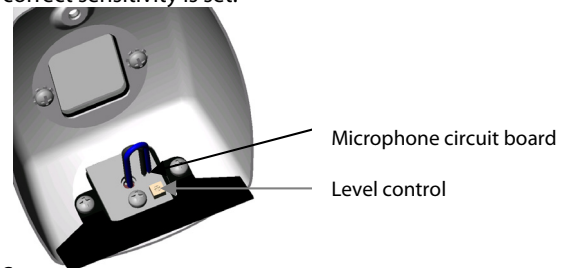

Figure 6
- 1 Adjust the sensitivity of the microphone for better performance in different environments. Adjust the level control using a small slot screwdriver. See Figure 6. Turn the control clockwise to decrease the level. Turn the control counter-clockwise to increase the level.